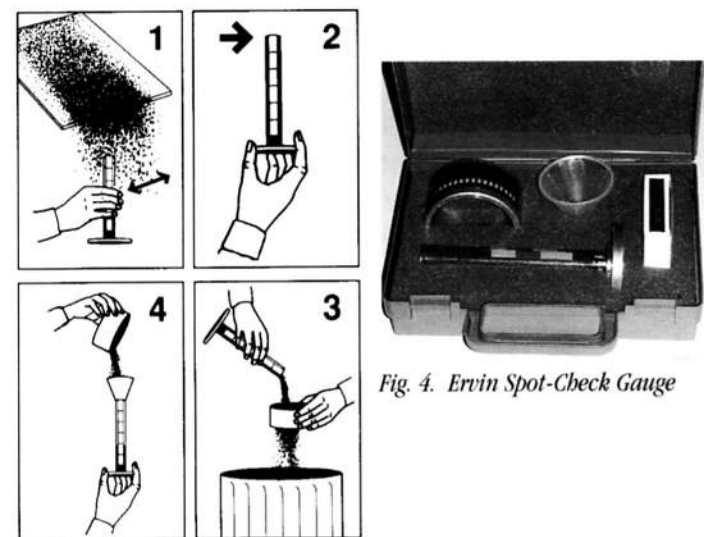

Fig. 4. Ervin Spot-Check Gauge
- (1) Add new abrasive every operating shift. Maintain feed hopper at or above 3/4 level at all times.
- (2) Do not allow abrasive spillage or leakage to accumulate; return to system daily.
- (3) Check work-mix size distribution weekly. Recommended: Use the Ervin Spot-Check Gauge (Fig. 4), which requires less than five minutes to use, providing instant feedback indicating whether or not the work-mix is in proper balance.